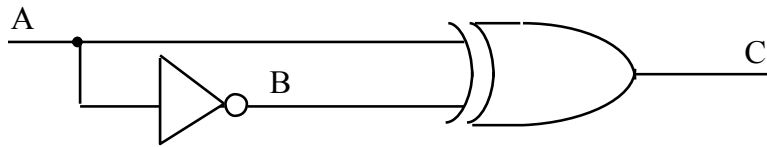
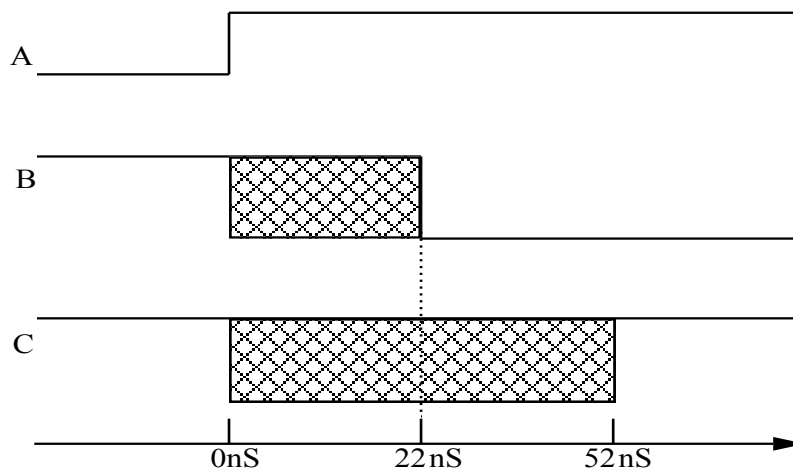

FIGURE 10
FIGURE 11
The circuit of Figure 10 should always output a logic one at C. However, due to the finite delays of the gates used, it may momentarily output a logic zero (a glitch) right after the input A changes. The inverter in the circuit of Figure 10 is from a 7404 chip. The 7404 has a typical propagation delay of 10ns, and a guaranteed maximum delay of 22ns. The exclusive-or gate (7486) has a typical delay of 14ns and a maximum of 30ns. Note that neither of these gates has a guaranteed minimum delay time; therefore, the assumed minimum delay is zero. When preparing a timing diagram always use the worst-case propagation delays, not the typical!
A timing diagram for the circuit of Figure 10 is given in Figure 11. At time $T = 0$, the input A changes from a zero to a one. The output of the inverter (B) is unknown from time $T = 0$ until time $T = 22$ ns. The value of B probably changes somewhere around 10ns (the typical delay time), but the output cannot be guaranteed until $T = 22$ ns. Since B is an input to the XOR gate, its output cannot be guaranteed until 30ns (maximum propagation delay) after the value of B is known. The cross-hatched areas in the timing diagram are the times when the signal value is unknown. The XOR output, C, is unknown for 52 ns after the input A changes. During those 52 ns, the output may be at logic zero or logic one. If it becomes a logic zero at any instance during these 52ns, then the circuit is said to produce a glitch.